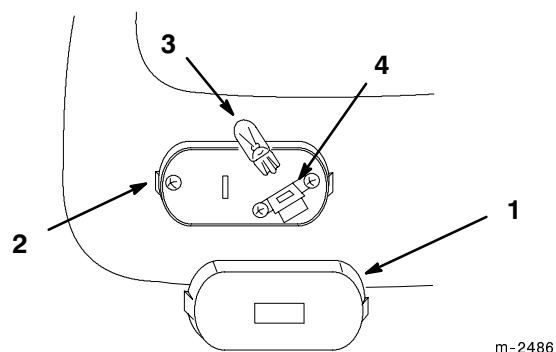

Figure 38
2. Inserting a screwdriver into slot and twist to remove lens (Fig. 38).
1. Align the bulb base with socket and push into position (Fig. 38).
2. Align and snap the lens onto the base (Fig. 38).